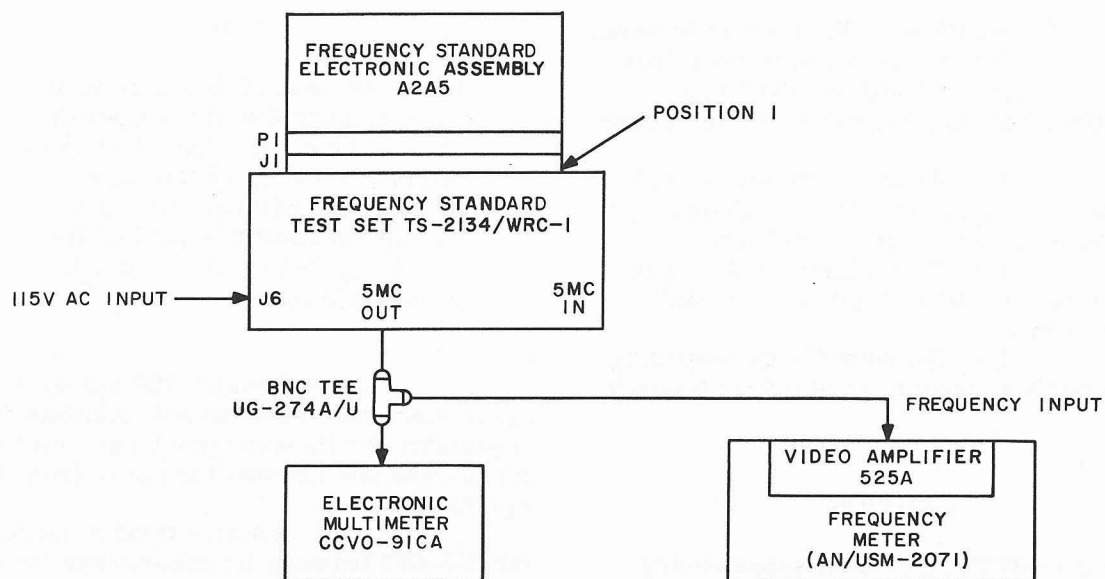

Figure 5-4. Frequency Standard Electronic Assembly A2A5, Output Signal Level Test Setup
(1) TEST EQUIPMENT. - The following test equipment or equivalent is required:
(2) PRELIMINARY INSTRUCTIONS. - Proceed as follows:
- (b) For test setup, see figure 5-4.